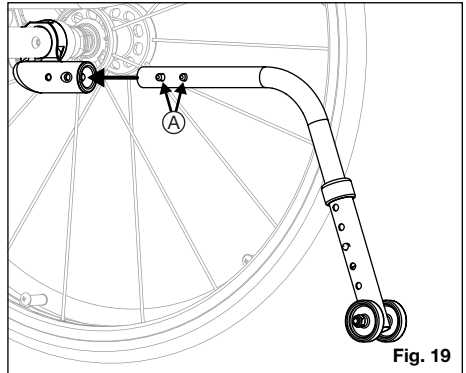

Fig. 19
How to Install the Standard Anti-Tips (Fig. 19)
1. Press the rear anti-tip indent button (Fig. 19:A) on the anti-tip tube so both the indent buttons are drawn inside.